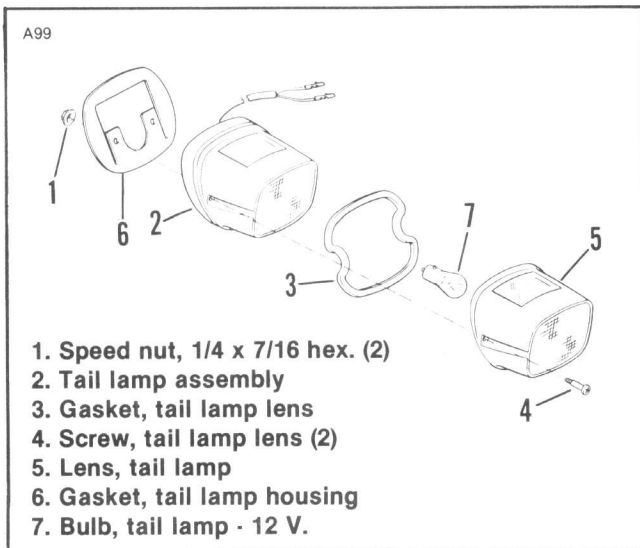

Figure 2-1. Sidecar Tail lamp
- See Figure 2-1.
- Remove the two tail lamp lens screws (4).
- Remove lens (5). Press bulb inward, turn the bulb 1/4 turn counterclockwise and remove the bulb.
- Replace the bulb (7) and gasket (3) if required.
- Reinstall lens (5) and screws (4).